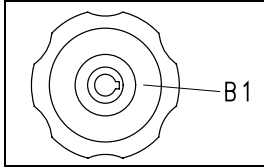

Fig.5.2
- Press handwheel **B1** and turn anti-clockwise. Fig.5.2